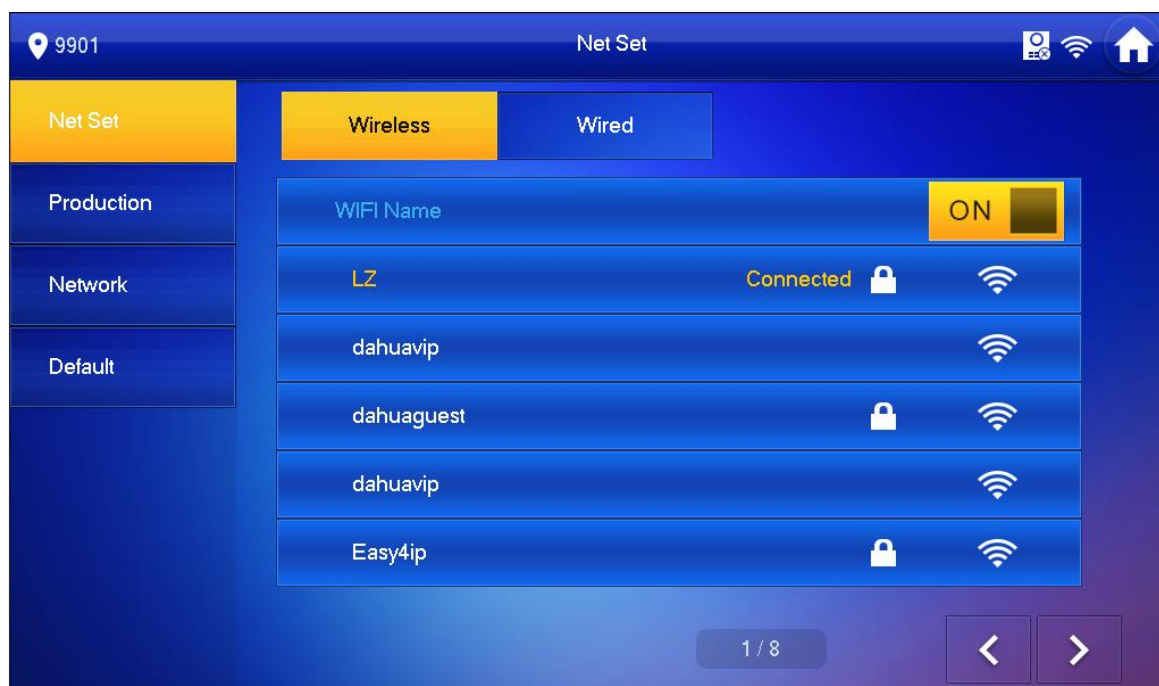

Figure 4-4
1. Select Wireless, open WLAN, view available WI-FI. See Figure 4-4.